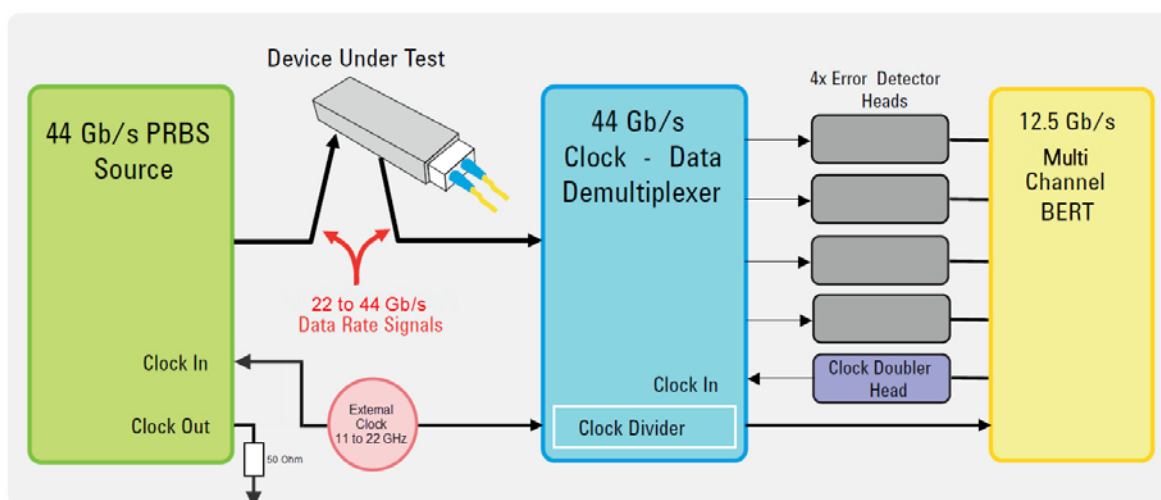

Figure 4. Typical test setup using external clock for 22 to 44 Gb/s operation
Alternatively the generator can be clocked from an external source, such as an Agilent N5183A with options 532 and 1EA, for operation at any rate between 22 and 44 Gb/s (half-rate clock required). For example, with a 22.0 GHz clock input the data output will be at $2 \times 22.0 = 44.0$ Gb/s. This setup is shown in Figure 4.
5. In the main screen of the N4980A multi-instrument BERT software, right-click on the N4965A-CTR instrument name/address located below the image of the N4965A-CTR then select **Control** from the pop-up menu as shown in Figure 4. This accesses the N4965A-CTR control panel.